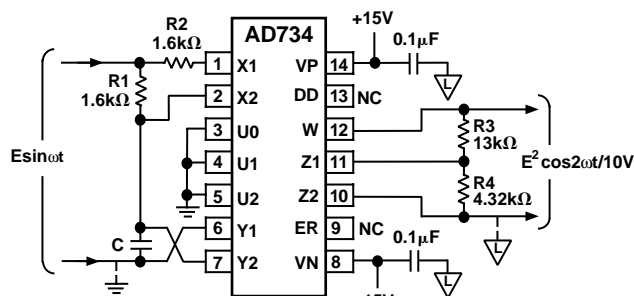

Figure 7. Frequency Doubler
Equation (8) shows a dc term at the output which will vary strongly with the amplitude of the input,  $E$ . This dc term can be avoided using the connection shown in Figure 7, where an RC-network is used to generate two signals whose product has no dc term. The output is